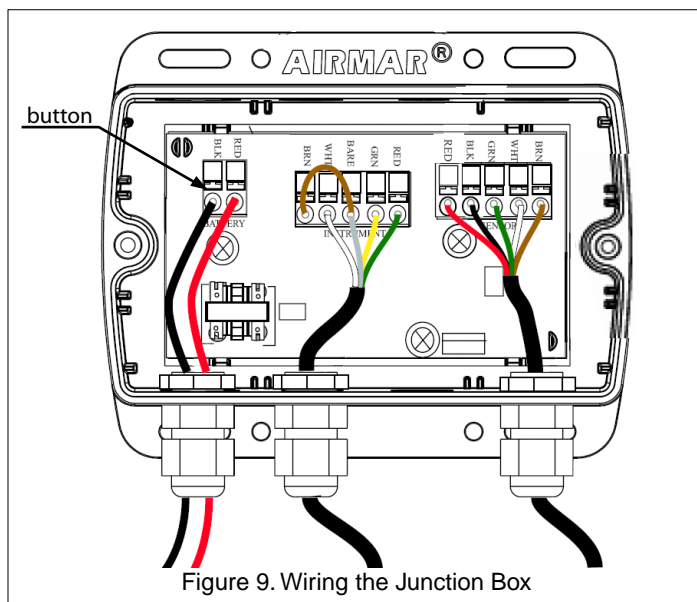

Figure 9. Wiring the Junction Box
1. From outside the junction box, *carefully* pull each of the cables in turn until only 13mm (1/2") of the cable jacket remains inside the box (see Figure 9).